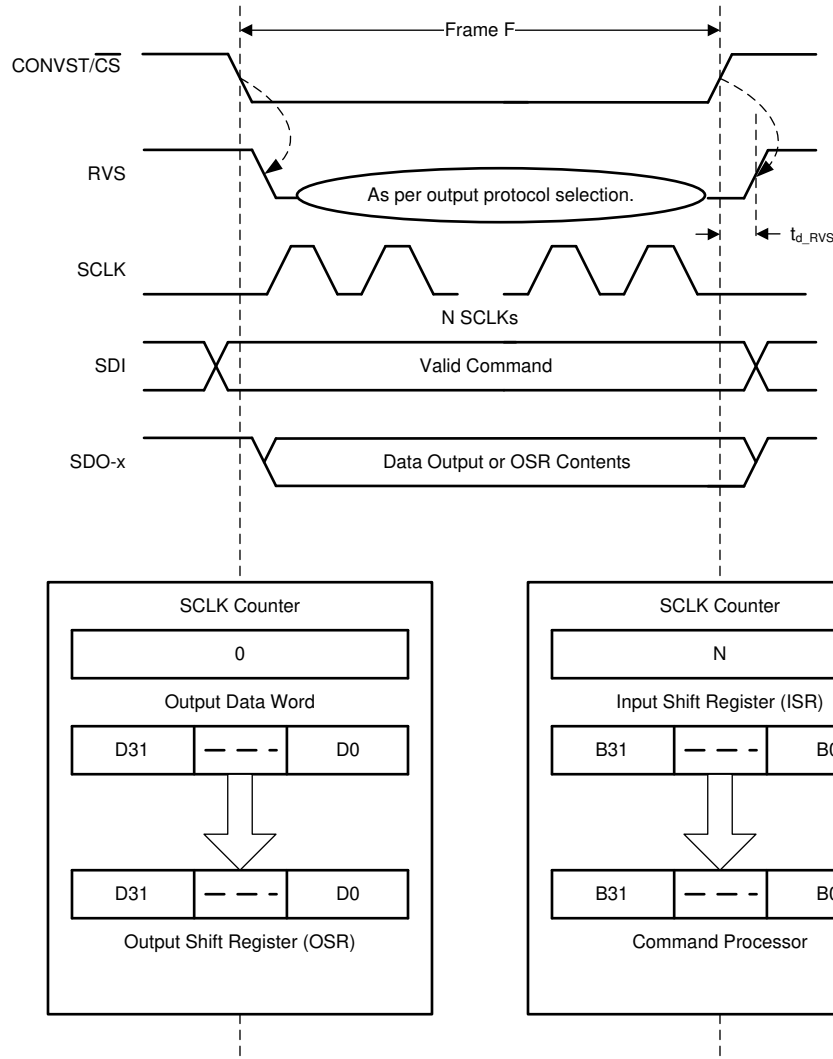

Figure 6-25. Data Transfer Frame
A data transfer frame between the device and the host controller begins at the falling edge of the CONVST/ $\overline{\text{CS}}$ pin. This frame ends when the device starts conversions at the subsequent rising edge. The host controller initiates a data transfer frame by bringing the CONVST/ $\overline{\text{CS}}$ signal low (Figure 6-25) after the end of the CONV phase. This process is described in the CONV State section.
- The device takes control of the data bus. As illustrated in Figure 6-25, the contents of the output data word are loaded into the 32-bit output shift register (OSR).
- As illustrated in Figure 6-25, the contents of the input shift register are transferred to the command processor for decoding and further action.